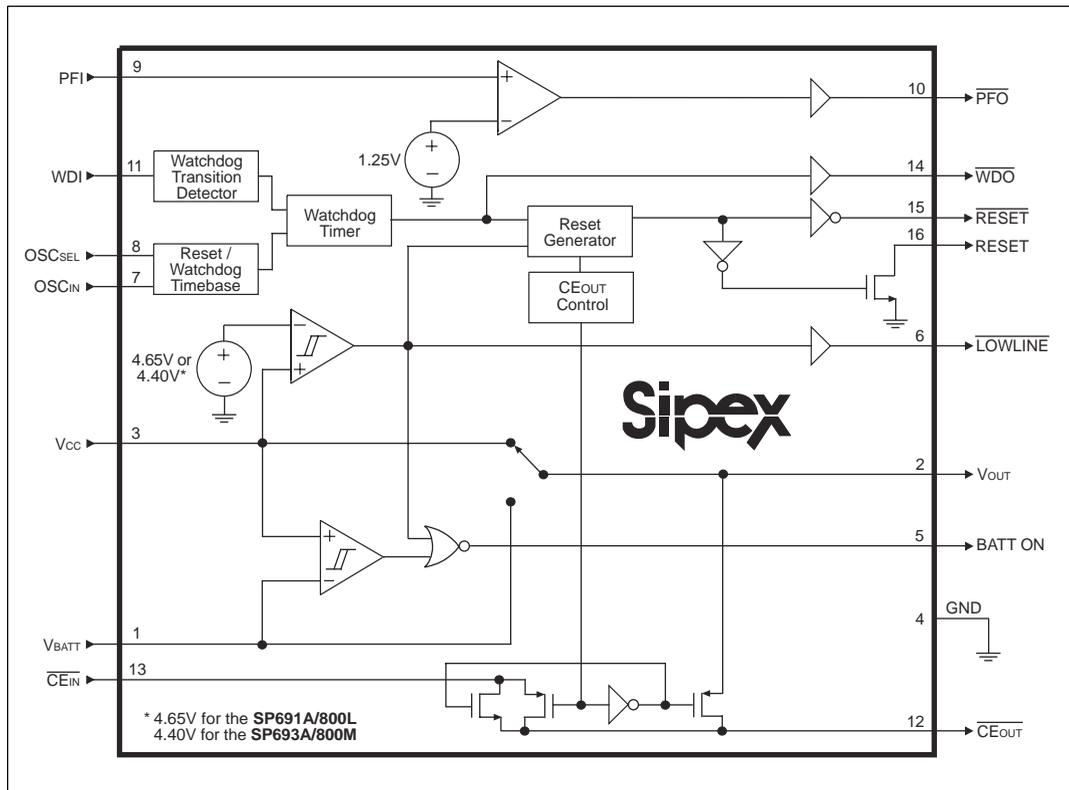

Figure 16. Internal Block Diagram of the SP691A/693A/800L/800M
The **SP691A/693A/800L/800M** devices provide internal gating of chip-enable (CE) signals, to prevent erroneous data from corrupting the CMOS RAM in the event of a power failure. During normal operation, the CE gate is enabled and passes all CE transitions. When reset is asserted, this path becomes disabled, preventing erroneous data from corrupting the CMOS RAM. The **SP691A/693A/800L/800M** devices use a series transmission gate from  $\text{CE}_{\text{IN}}$  to  $\text{CE}_{\text{OUT}}$ . Refer to *Figure 16*.
LOWLINE is the buffered output pin of the reset threshold comparator. Refer to Figure 16. LOWLINE typically sinks 3.2mA at 0.1V. For normal operation where  $V_{\text{CC}}$  is above the reset threshold, LOWLINE is pulled to  $V_{\text{OUT}}$ .